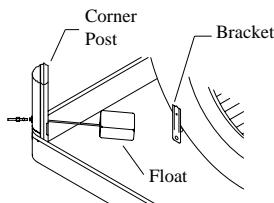
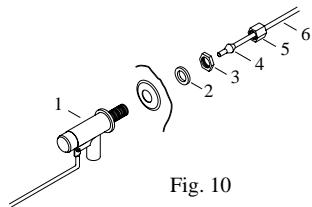

Fig. 9
Fig. 10
- Install float and attach water line to float.** The float may be installed in either the corner post or bracket (see Fig. 9). If you have model 3000DD/N31D then the float should be mounted to the bracket. Refer to figure 10 for installation instructions. Insert the float (1) thru the hole in the corner post or bracket. Install the washer (2) and nut (3). Tighten to keep the float from turning. Place the nut (5) and ferrule (4) on the water supply line. Connect to float fitting and tighten until water tight.